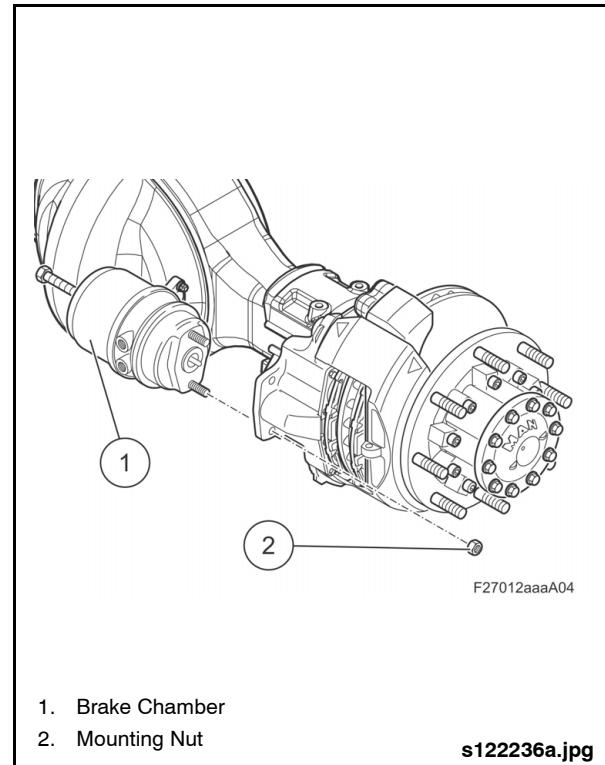

Fig. 2-143: Removing Brake Chamber
7. Remove the two lock nuts securing the brake chamber to the brake caliper assembly and remove the brake chamber from the vehicle. See "Fig. 2-143: Removing Brake Chamber" on page 122.